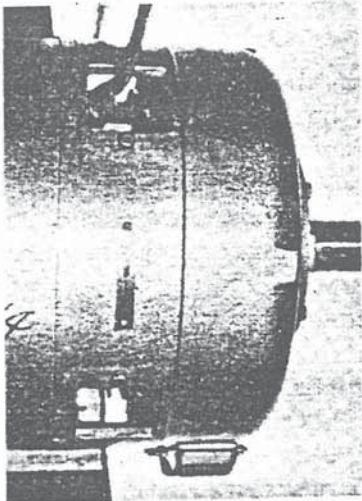

Fig. 8-9
h) Insert a screwdriver into the gap between the shield on the driven side and the frame to remove the faucet, and then withdraw the shield from the frame. (Fig. 8-9)